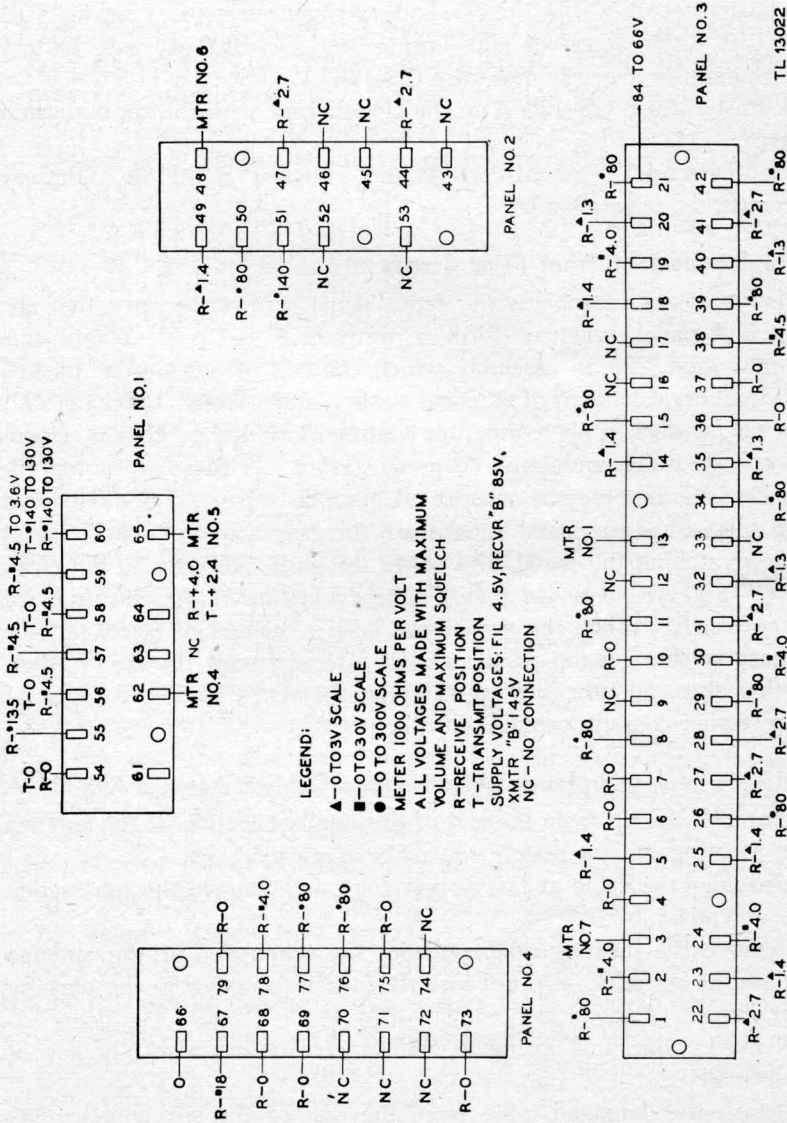

Figure 75. Terminal panels 1 and 3 showing terminals used in checking batteries.
(1) Obtain a Radio Receiver and Transmitter BC-1000-A which is known to be in proper operating condition.
(2) Remove the Radio Receiver and Transmitter BC-1000-A and the battery from their cases and interconnect them with the battery cable assembly from Maintenance Equipment ME-40- ( ).
(3) Connect Handset TS-15- ( ) and phantom Antenna A-28- ( ).
(4) Turn on set.
(5) Measure voltages between the chassis and terminals as indicated in table XV. See figure 75 for a view of the terminal panels. Replace the battery if any one of the following end-point voltages is indicated: